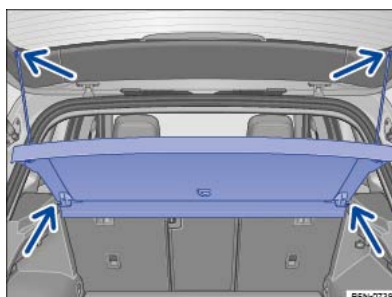

Fig. 181 In the luggage compartment: removing and installing the luggage compartment cover.
- Unhook the retaining straps from the boot lid $\Rightarrow$ *Fig. 181* (upper arrows).
- Pull the luggage compartment cover out of the side retainers $\Rightarrow$ *Fig. 181* (lower arrows).
- Push the luggage compartment cover into the side retainers $\Rightarrow$ *Fig. 181* (lower arrows).
- Hook the retaining straps to the boot lid $\Rightarrow$ *Fig. 181* (upper arrows).